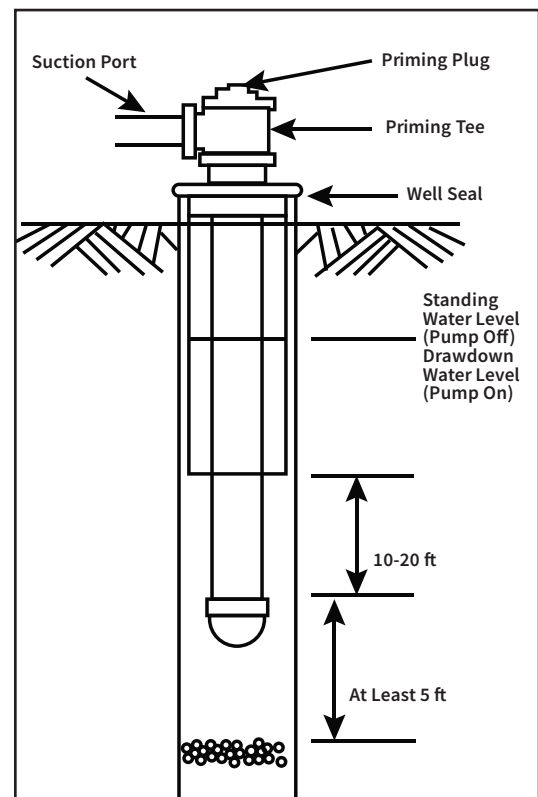

FIGURE 3
5. If using a priming tee with a plug as shown on Fig. 3, also fill the suction line with clean water through this tee (until water starts to flow out) and reinstall the priming plug.